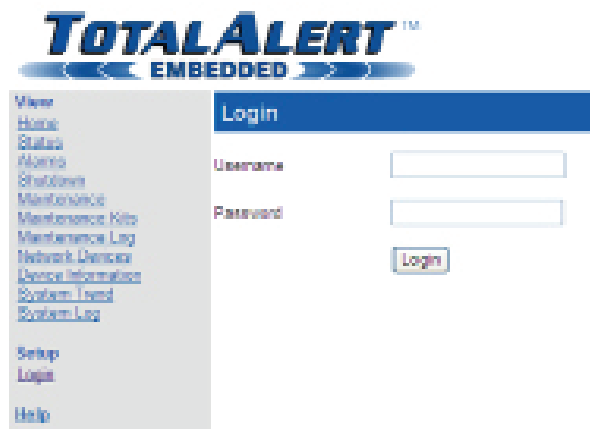

Figure C.30 Login for Setup Pages
2. Click “Login” on the menu bar in the left pane. The web browser will request a username and password (Figure C.30).